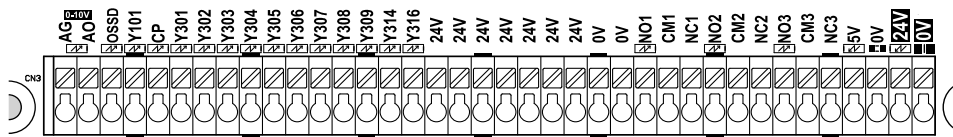

Figure 18, Output terminals
**Figure 18** shows 14 output terminals, each output can sink current up to a maximum of 70mA with a total maximum of 500 mA per group of 7 outputs.